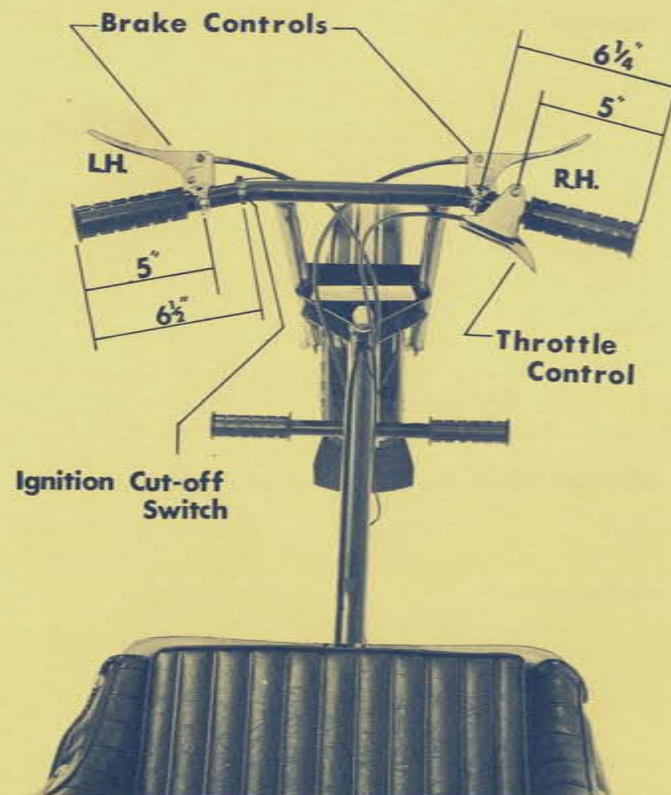

Figure 1
Note: Washers should be positioned under head of screw and under nut. (See Fig. 1).
Attach thumb throttle control assembly to right side of handle bar 5" from the end right behind the right brake control handle. (See Fig. 1).
4. Install ignition cut off switch on left side of handle bar $6\frac{1}{2}$ from the end. (See Fig. 1).
3. Ignition cut off switch: This control is located on the left handle bar. (See Fig. 1). To stop the engine depress button until engine stops.